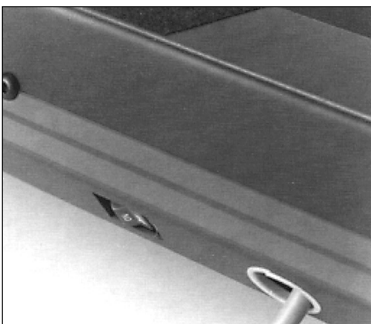

Fig. 2-5: On/Off (I/O) power switch
2. Locate the On/Off (I/O) power switch on the lower left side of the treadmill chassis (Figure 2-5). Turn it to the On (I) position to bring power to the internal treadmill components.
3. The control panel continuously displays the prompt message PRESS START when the treadmill is dormant with the On/Off (I/O) power switch turned On (I) and the treadmill power cord plugged in. (CYBEX recommends that the treadmill be unplugged or the On/Off (I/O) power switch turned Off (O) when it is not in use.)
6. Press START/ENTER to accept the default program, 1. Manual mode. The treadmill begins a countdown in both display windows, "3...2...1," and sounds a tone for each count. After it reaches one (1), the treadmill gives a steady tone, and then starts accelerating the belt to reach 1 mph (1.6 kph).